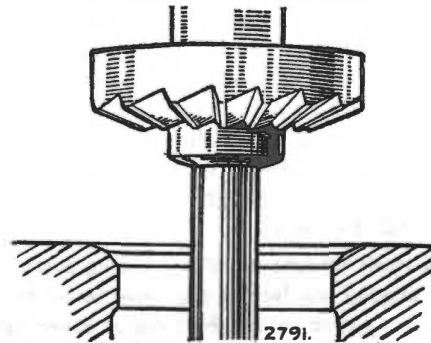
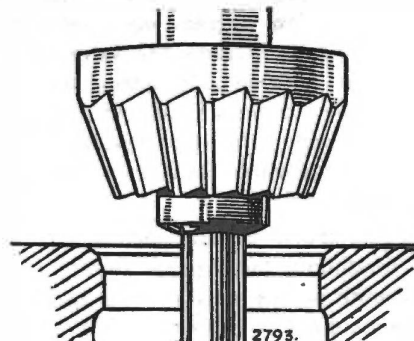

Fig. 26. Use of  $15^\circ$  valve seat cutter
Fig. 27. Use of  $75^\circ$  valve seat cutter
After recutting a seat its refaced valve should be inserted in the valve guide to check where the valve seats. If the valve comes too low in the seating a new valve should be tried. If this valve comes too low in the recut seating a 15° cutter should be used to reduce the width of the seating as shown in Fig. 26. Occasionally it is necessary to reduce the seating width from the bottom by means of a 75° cutter. See Fig. 27.
All sump joints should be fitted dry, except when working from underneath, when the side joints have to be stuck to the cylinder block bottom face. A small quantity of quick setting compound should be applied to the ends of all joints at the points (B) Fig. 26 to ensure a satisfactory oil seal in the corners. The centre sump bolts should be fitted first and all bolts progressively tightened.